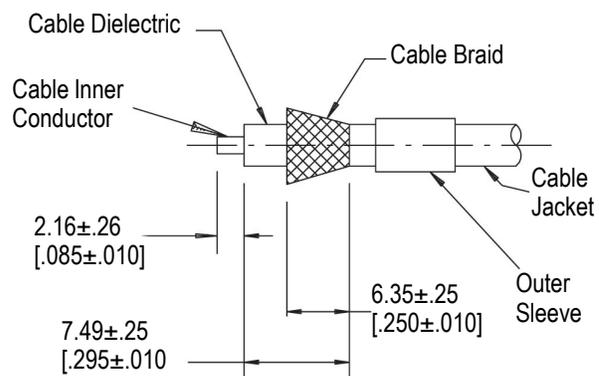

Figure 3
**3.1. Preparation of Coaxial Cable End (Figure 3)**